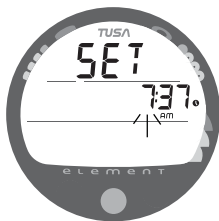

Fig. 21 - SET TIME
- After having set and accepted Hour Format, the Set Time screen appears with the Hour Set Point flashing (Fig. 21).